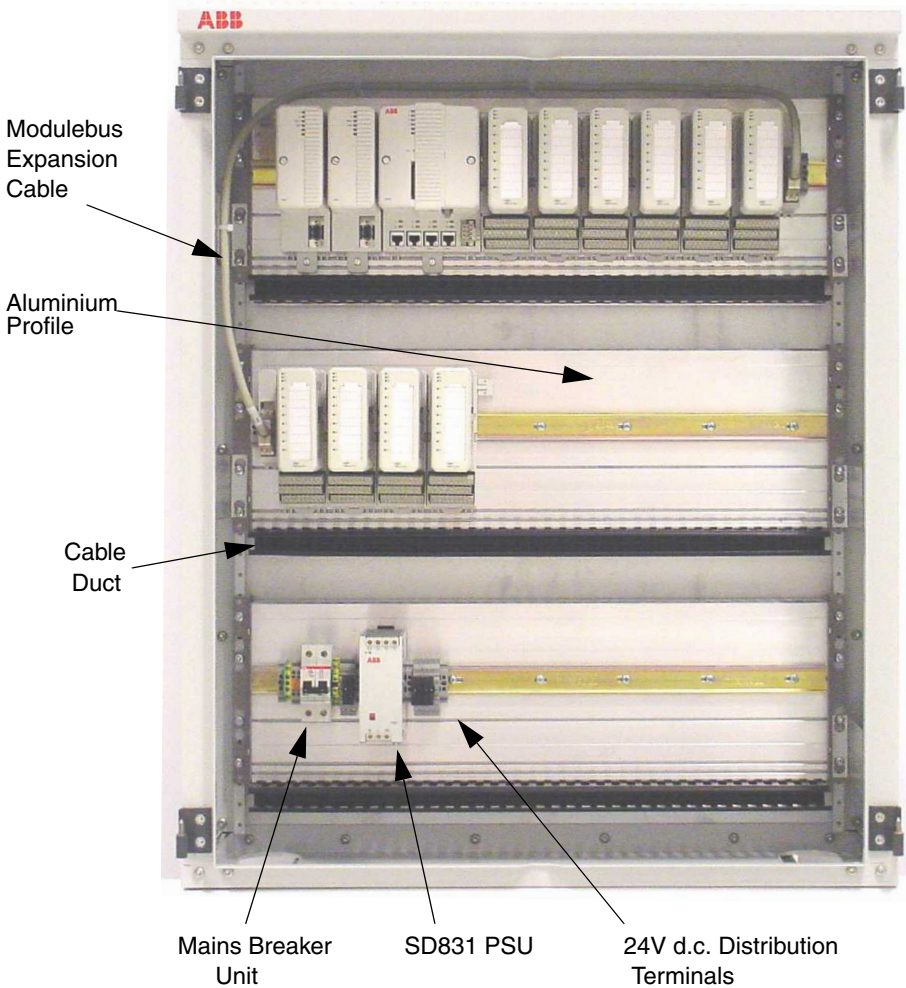

Figure 51. Wall Cabinet - Single Power Supply Arrangement
- Figure 51 on page 116, Wall Cabinet - Single Power Supply Arrangement